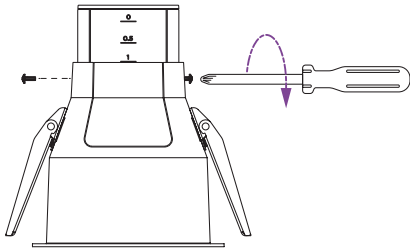

fig. 17
1. Using a #1 Phillips screwdriver, remove the set screws in the regress (see fig. 17).